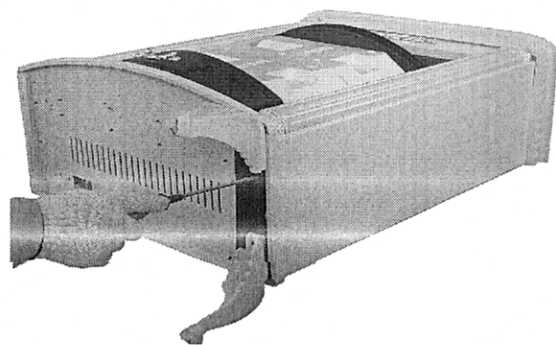

Figure 4
- Lay the heater down on its back and install the legs with care on the bottom panel (as shown in Figure 4). Make sure the vein side is forwards.